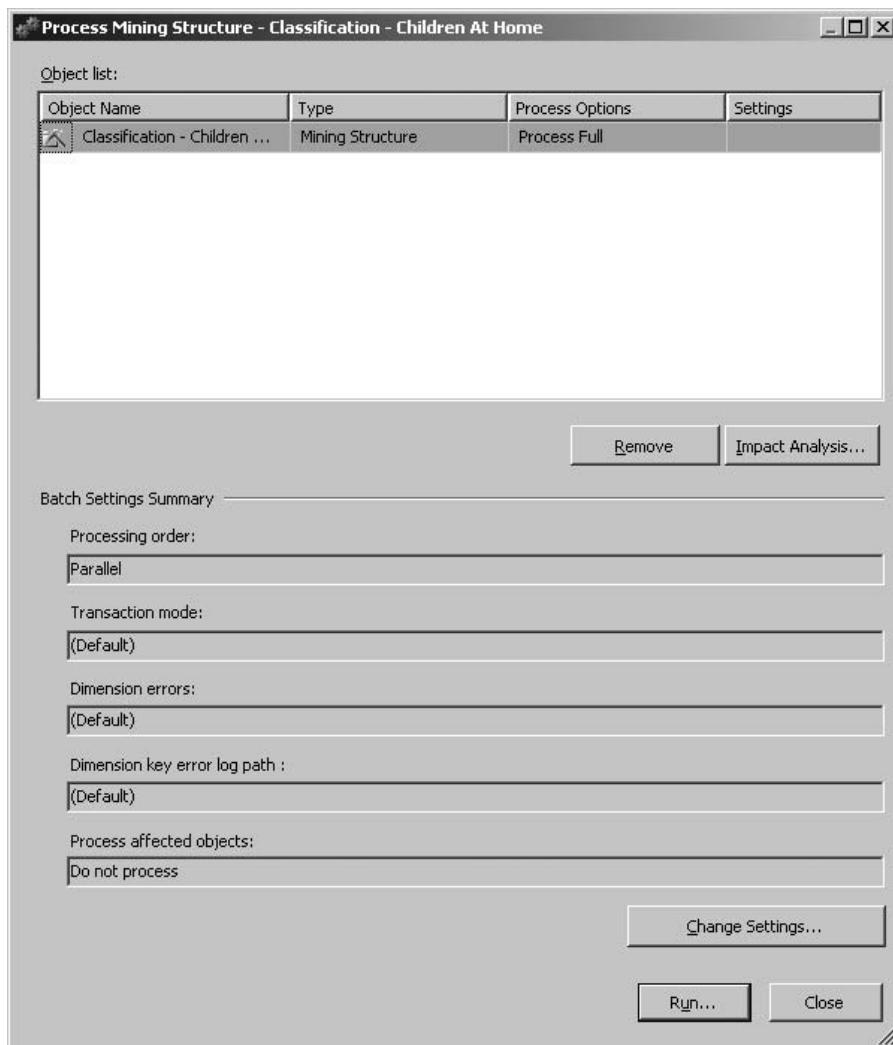

Figure 14-16 The Process Mining Structure dialog box
59. When the deployment is complete, the Process Mining Structure dialog box appears, as shown in Figure 14-16. Click Run. The Process Progress dialog box appears.